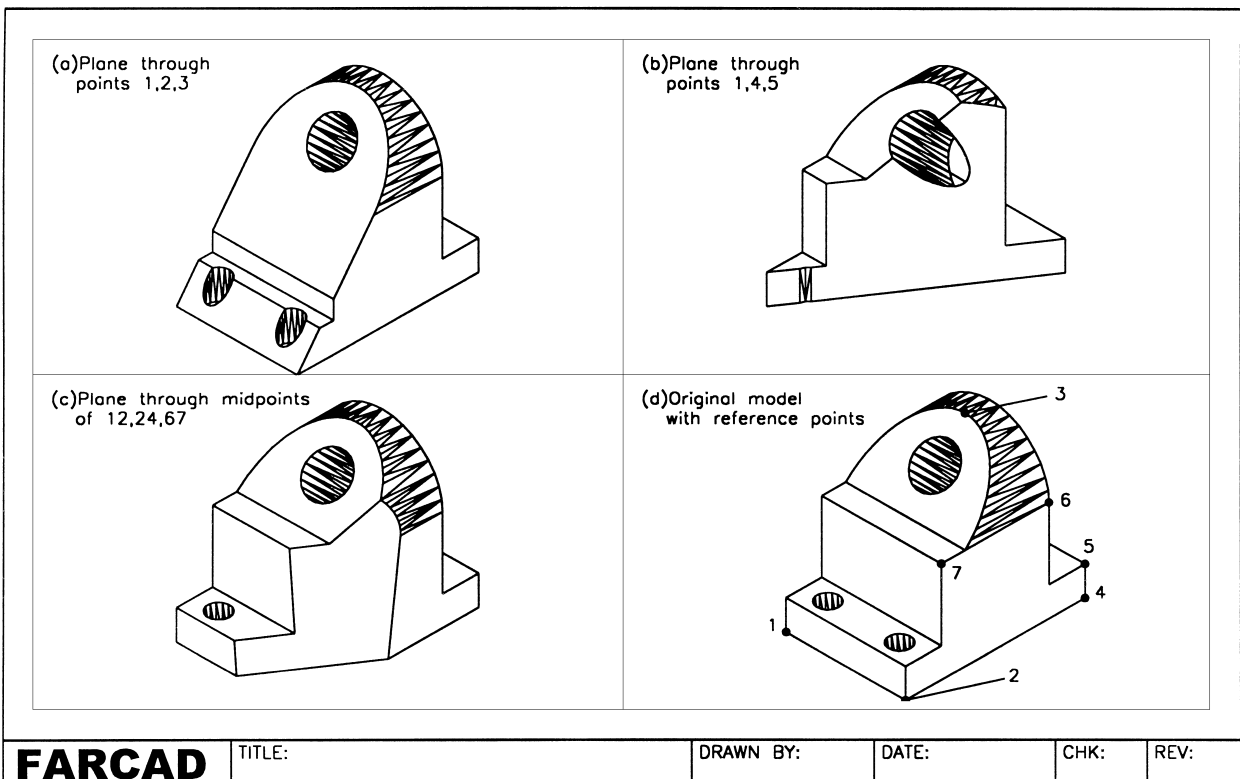

Figure 38.2 Slice example 2 – MABHSUPP using three-defined points.
- Open the drawing file MODR2002\MACHSUPP – the first composite solid created in chapter 31. Make the Model tab active with USC BASE and layer MODEL. Refer to Fig. 38.2